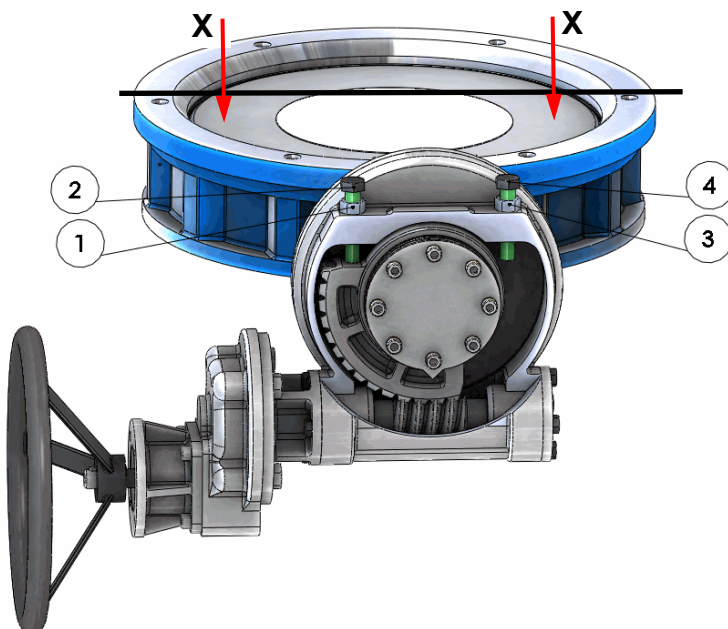

Fig.6: Measuring distance.
- Turn valve into closed position, so that the disk is parallel to the seal. Right position checked by measuring the distance X from flange of the valve to the disk surface. (Fig. 6). The distance must be equal on both sides of the disk.
1. The limit switcher in the closed position must stop the turning of the disk when the disk is parallel to the seal. Ensure the correct position of the valve disk by measuring distance "X" (Figure. 6). The measure must be the same on both sides of the disk.